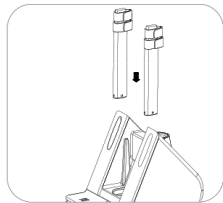

Fig. 2
- Put the telescopic pole insert the base. Fig. 2